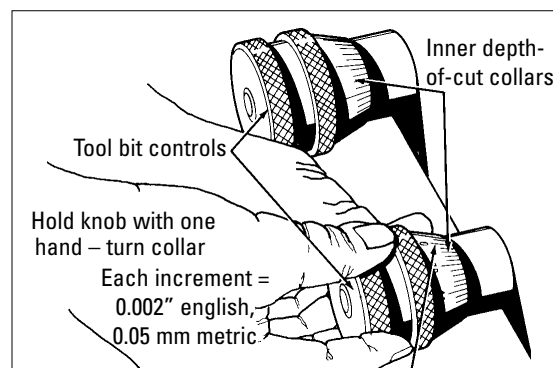

Figure 23 - Tool bit controls
**7.** Turn each tool bit control (the outer knurled knobs, figure 23) clockwise until the tool bits just contact the rotor surfaces.